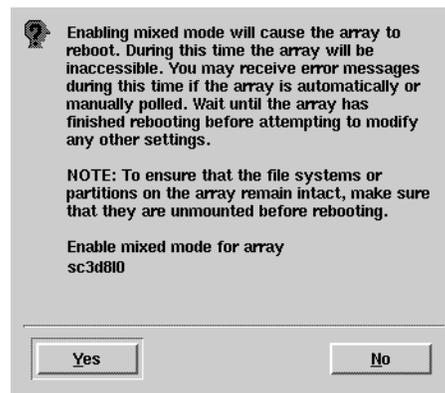

Figure 2-17 Enabling Mixed Mode, Confirmation Window
A confirmation window opens, warning you that the system will reboot; see Figure 2-17.
- Choose Enable BandWidth Mode from the Array menu of the Array Configuration window. A confirmation window opens, as shown in Figure 2-17.